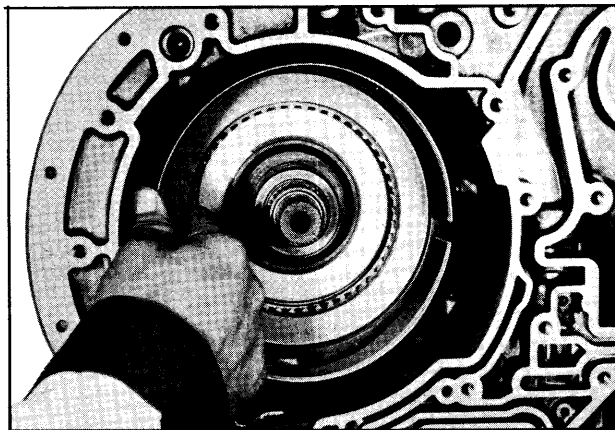

Fig. 7E-194 Installing Front Band
8. Install the intermediate clutch backing plate, ridge up. (Fig. 7E-191)